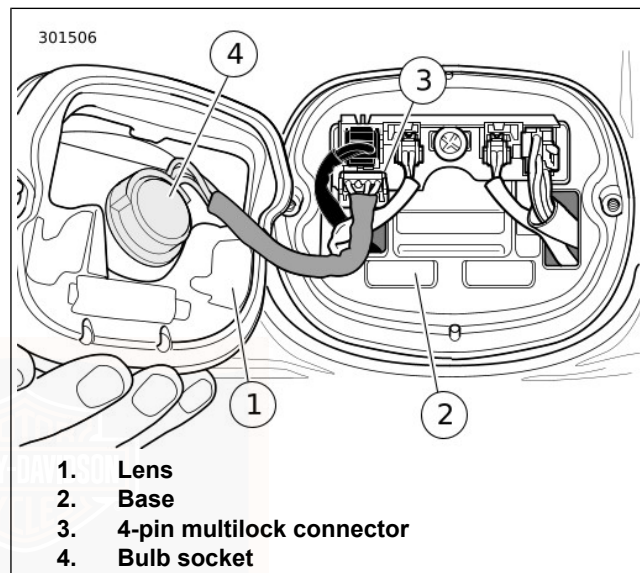

Figure 68. Tail Lamp Assembly
2. See Figure 68. Disconnect tail lamp connector (3).
3. Rotate bulb socket (4) 1/4 turn counterclockwise and remove from tail lamp assembly. Pull bulb from socket.
2. Insert socket (4) into tail lamp assembly and rotate 1/4 turn clockwise.
3. See Figure 68. Connect tail lamp connector (3).